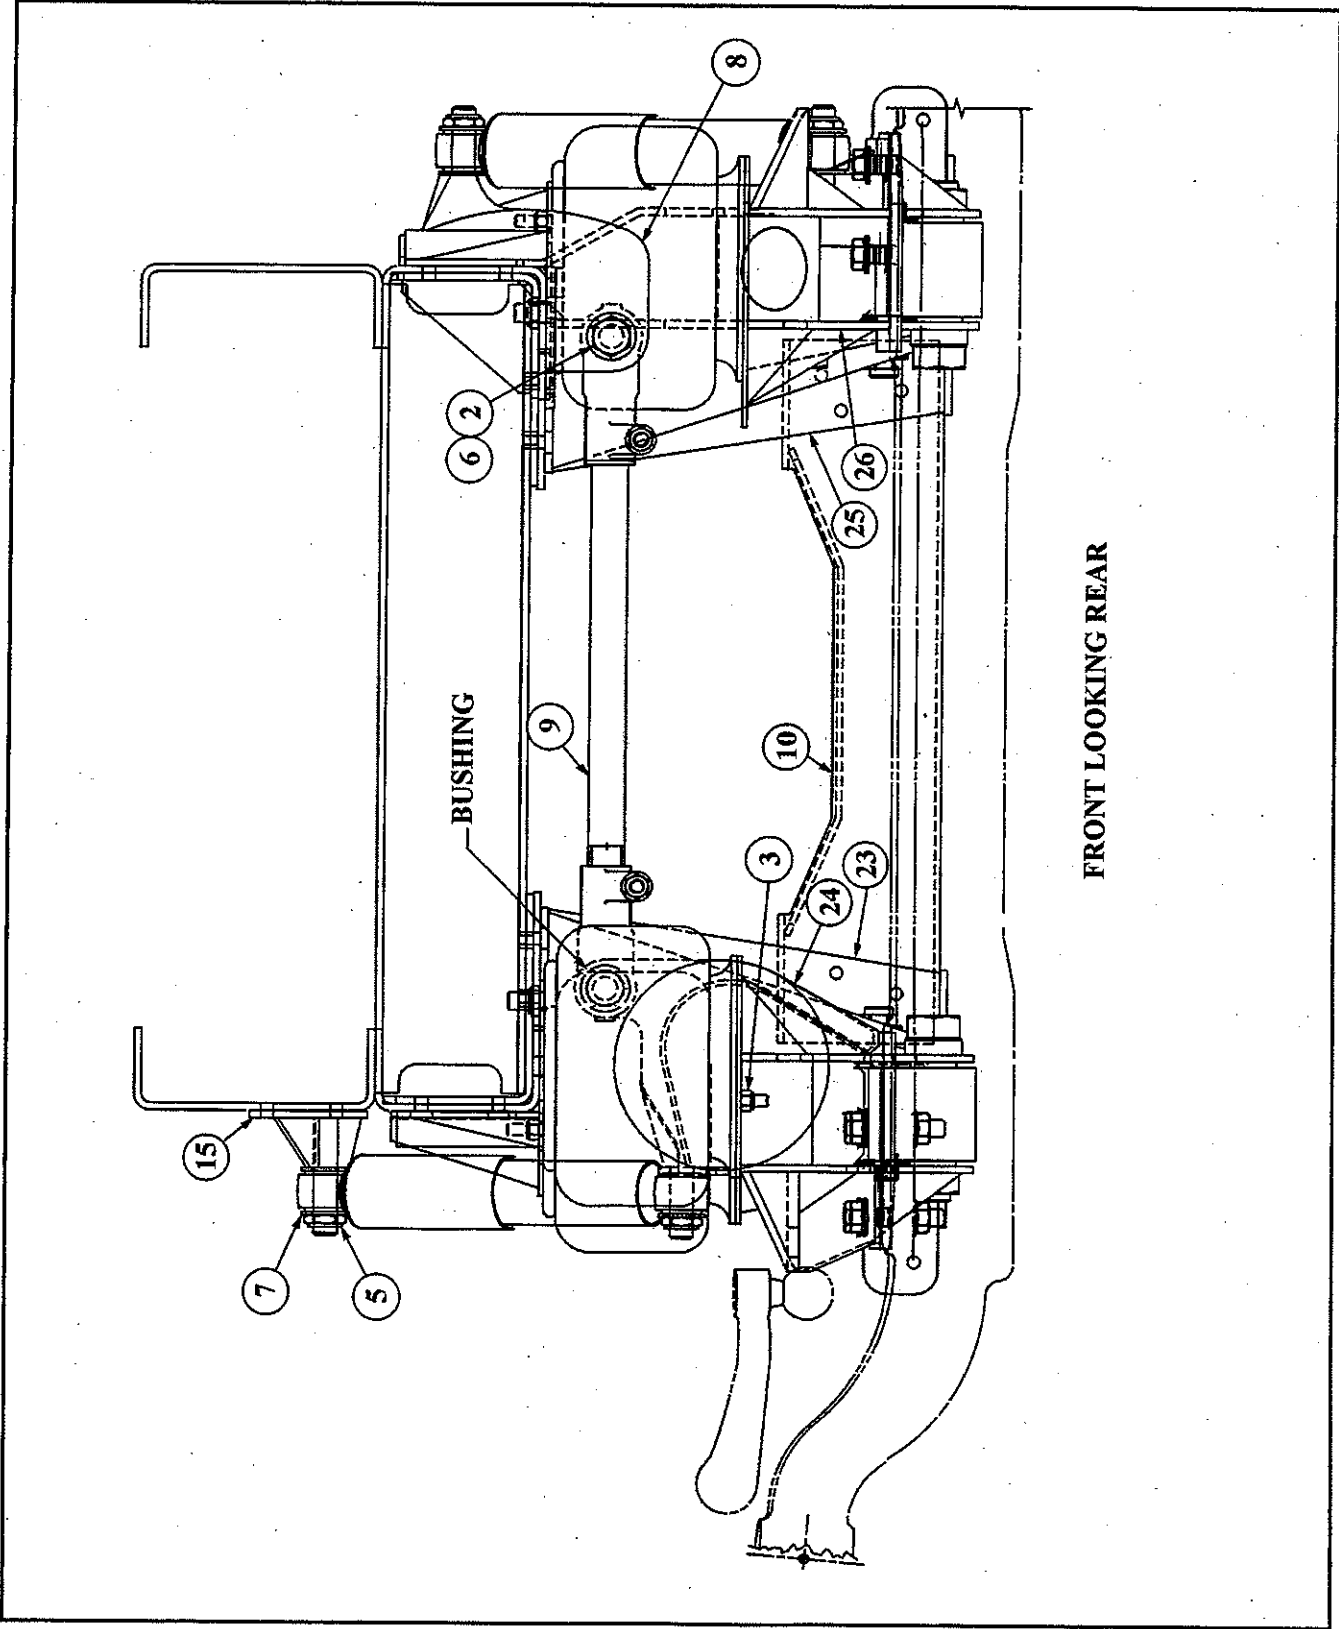

Figure 5—Transverse Torque Rod and Bushing Removal
Remove nut (6) and bolt (2) from sway bar (9). (See Figure 5—Transverse Torque Rod and Bushing Removal..)